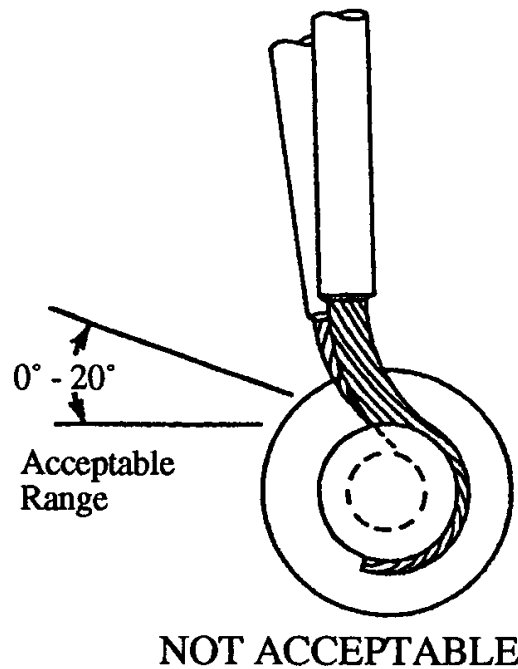

Figure 9-1. Wrap Orientation
8. **Wrap Orientation.** Conductors may be wrapped clockwise or counterclockwise on the terminal and shall continue the curvature of the dress. The conductor shall not interfere with the wrapping of other conductors on the terminal. The curvature of the dress shall not exceed 20° from a perpendicular line from the last point of contact between the conductor and terminal (Figure 9-1).